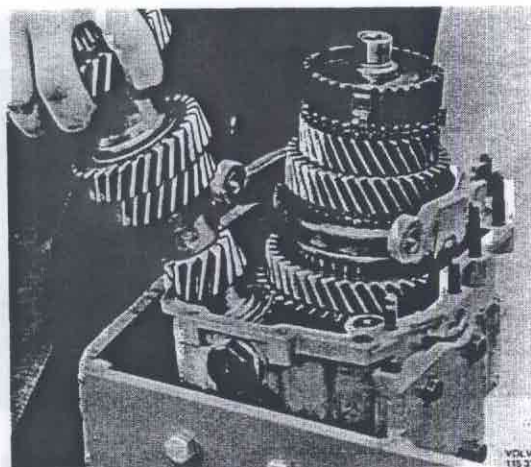

Fig. 43-108. Fitting countershaft
9. Lift up the output shaft and reverse gear and fit the countershaft, Fig. 43-108.